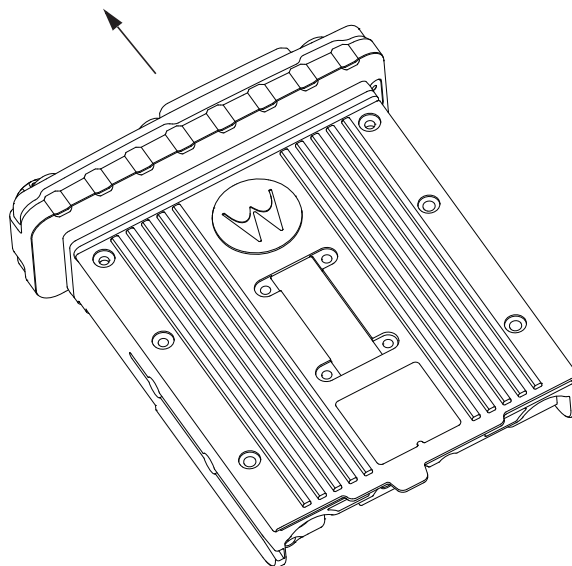

Figure 2-58. Removing the Control Head
3. Firmly grasp the front panel of the control head. Carefully remove the front housing assembly from the back housing assembly as shown in Figure 2-58. Note the position of the attached flex and do not pull on it excessively.